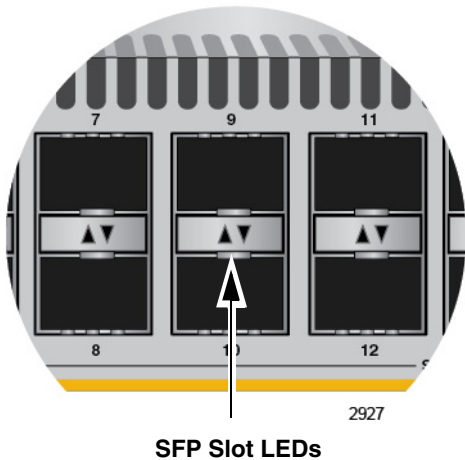

Figure 4. SFP Slot LEDs
**SFP Slots LEDs** The LEDs for the SFP slots are located between the slots, as shown in Figure 4 on page 26. Each SFP slot has one LED. The left-hand LED is for the top slot and the right-hand LED is for the bottom slot.